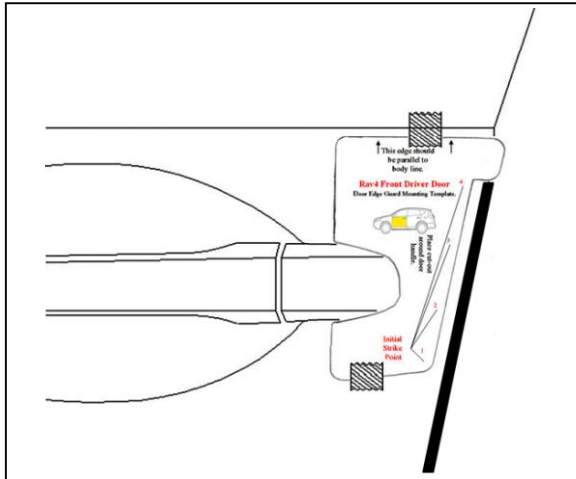

Fig. 2-4
- (2) Align the top edge of the DEG (labeled Front Driver with Pink sticker) with the lower edge of the template alignment notch as shown (Fig 2-4).